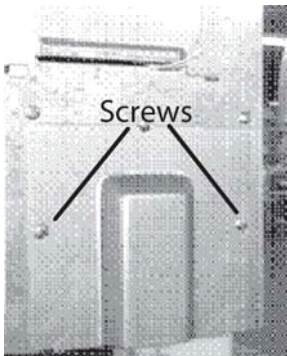

Figure 1. Power cord cover
3. Remove the power cord cover. See Figure 1.